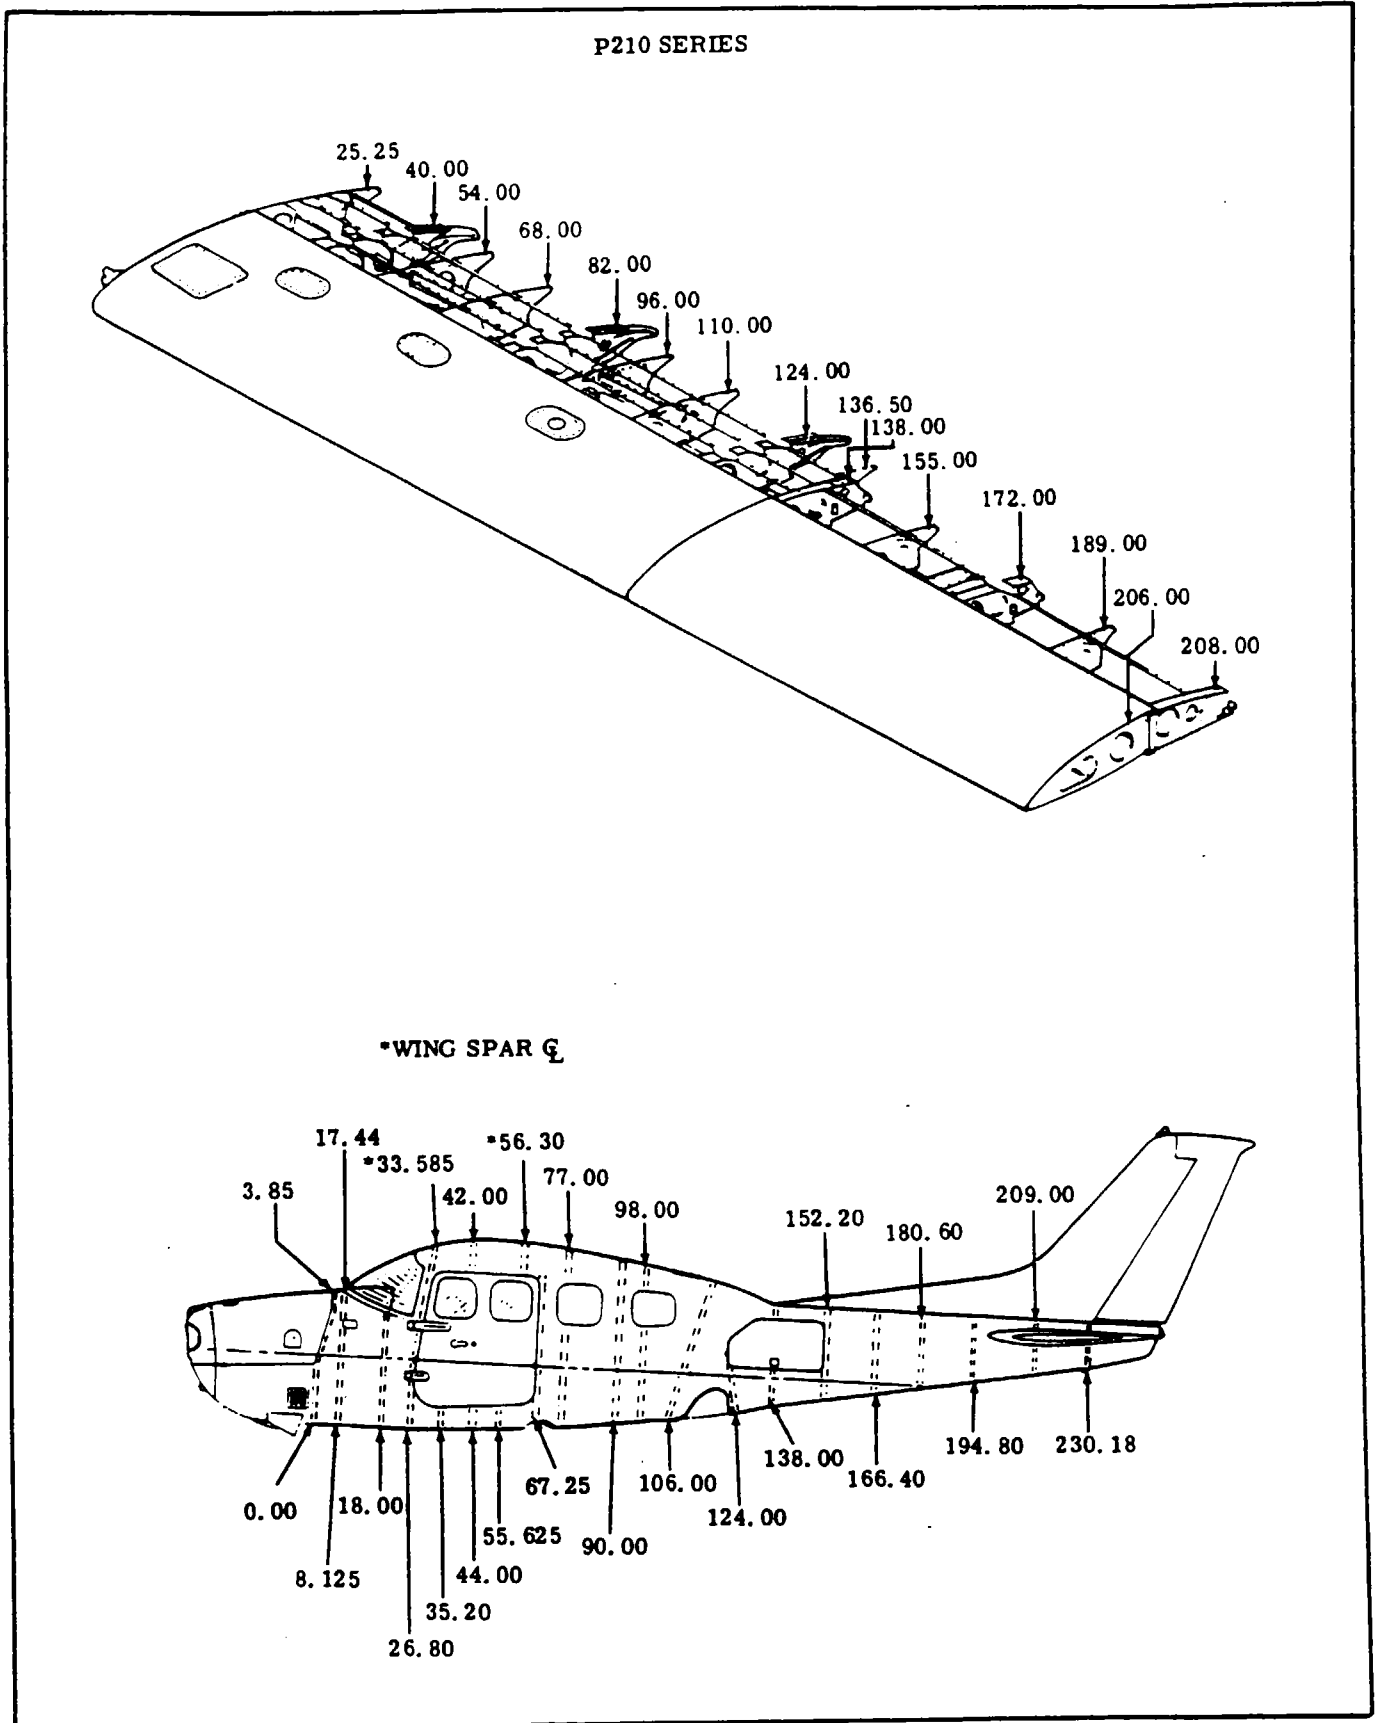

Figure 1-2. Aircraft Specifications.
**1-5. STATIONS.** A station diagram is shown in figure 1-2 to assist in locating equipment when a written description is inadequate or impractical.
2. When using a torque wrench adapter which changes distance from torque wrench drive to adapter drive, the indicated reading must be adjusted for desired torque reading. (See Figure 1-2.)